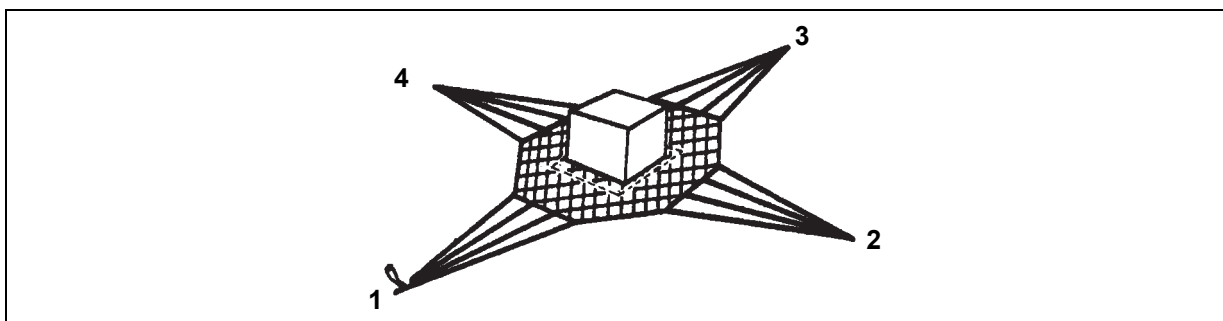

Figure 7-6. Aligned Load
- Align the load on the net so that the sides of the load are parallel with the yellow cord (figure 7-6). The load may overlap the yellow cord if the load is bigger than the yellow cord marked area. If the load is placed correctly, the load's center of gravity will be near the center of the net. The lifting legs will be on the side of the load, not on the corners. If the load is loose cargo, place the cargo on the net with the heaviest items in the center and the lighter items toward the sides or on top of heavier items.